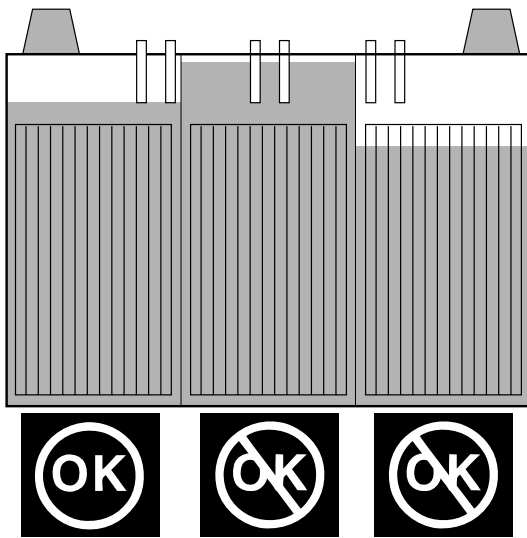

Figure 11
- The battery fluid level should be checked to ensure it at the correct level (figure 11).